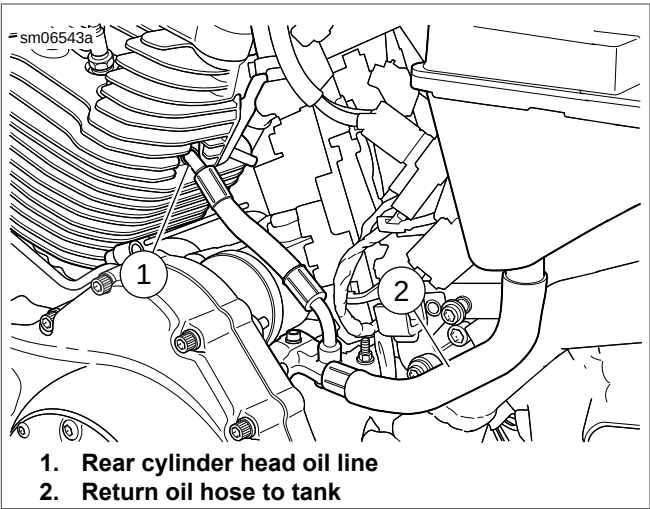

Figure 3-28. Rear Cylinder Oil Line
7. See Figure 3-28. Disconnect oil return hose (2) from oil tank.
8. Remove rear cylinder head oil line (1) from quick connect fitting using OIL LINE REMOVER, 3/8 INCH (Part No. HD-49096) while sliding return oil manifold back off from rigid oil lines and remove assembly from engine.